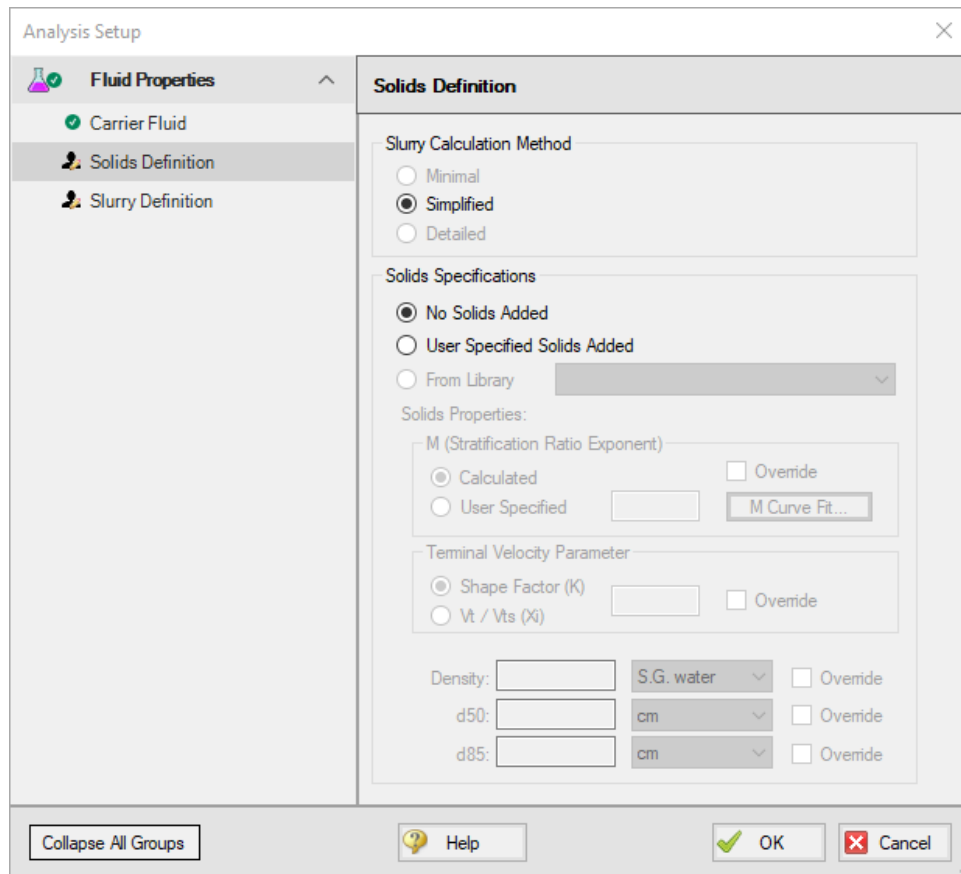

Figure 6: Fluids can be treated as clear fluid by selecting No Solids Added as the Solids Specification
3. In the Analysis Setup window that appears, click the **Solids Definition** item, and select **No Solids Added**, as shown in Figure 6. This will treat the fluid as clear water.